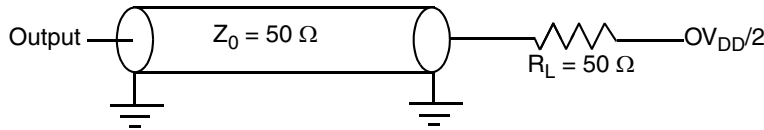

Figure 19. AC Test Load for the JTAG Interface
- All outputs are measured from the midpoint voltage of the falling/rising edge of t_{TCLK} to the midpoint of the signal in question. The output timings are measured at the pins. All output timings assume a purely resistive 50-Ω load (see Figure 19). Time-of-flight delays must be added for trace lengths, vias, and connectors in the system.
- The symbols used for timing specifications herein follow the pattern of $t_{(first\ two\ letters\ of\ functional\ block)(signal)(state)\ (reference)(state)}$ for inputs and $t_{(first\ two\ letters\ of\ functional\ block)(reference)(state)(signal)(state)}$ for outputs. For example, t_{JTDVKH} symbolizes JTAG device timing (JT) with respect to the time data input signals (D) reaching the valid state (V) relative to the t_{JTG} clock reference (K) going to the high (H) state or setup time. Also, t_{JTDXKH} symbolizes JTAG timing (JT) with respect to the time data input signals (D) went invalid (X) relative to the t_{JTG} clock reference (K) going to the high (H) state. Note that, in general, the clock reference symbol representation is based on three letters representing the clock of a particular functional. For rise and fall times, the latter convention is used with the appropriate letter: R (rise) or F (fall).
Figure 19 provides the AC test load for TDO and the boundary-scan outputs of the MPC8343E.